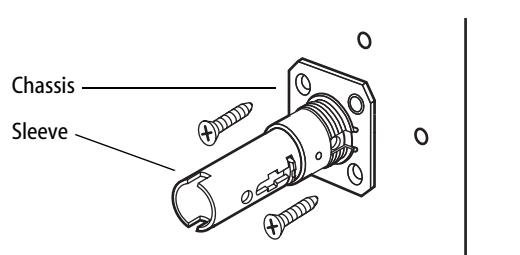

Figure 3–Installing the 8K single dummy trim
- 1 Fasten the chassis onto the door with the screws provided. See Figure 3.